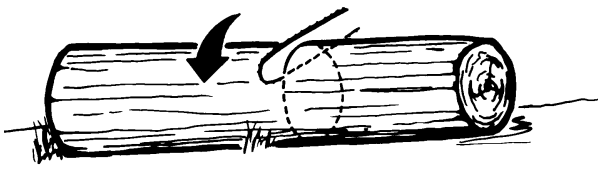

Fig. 17
1. Log supported along entire length: Cut from top (overbuck), being careful to avoid cutting into the ground (Fig. 17).